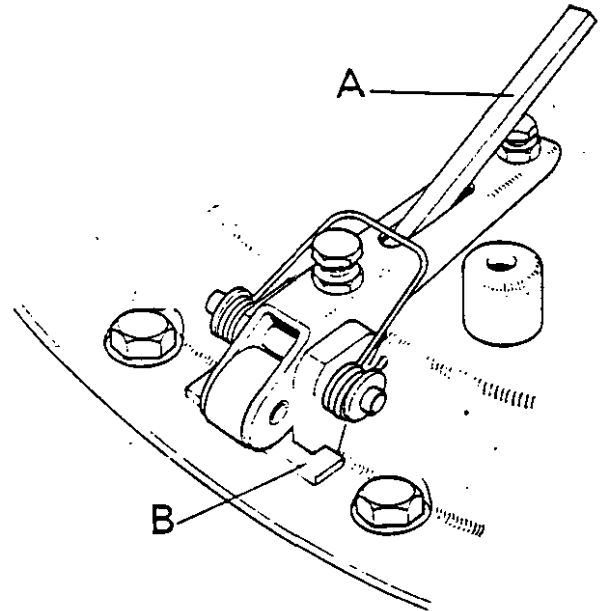

Figure 17.
11. Before removing clutch from baseplate, replace transit blocks — $\frac{3}{8}$ in. \times $\frac{1}{2}$ in. \times 2 in. (2.38 \times 12.7 \times 50.8 mm) — between cover and pressure plate at the heel of release levers to prevent thrust springs expanding too far as shown in Fig. 17.